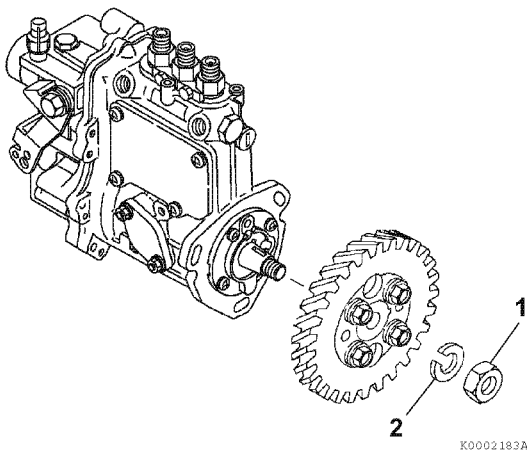

Figure 7-19
18. Once the fuel injection pump drive gear and hub assembly have “popped” loose from the tapered fuel injection pump drive shaft, carefully remove the drive gear nut (**Figure 7-19, (1)**) and lock washer (**Figure 7-19, (2)**).